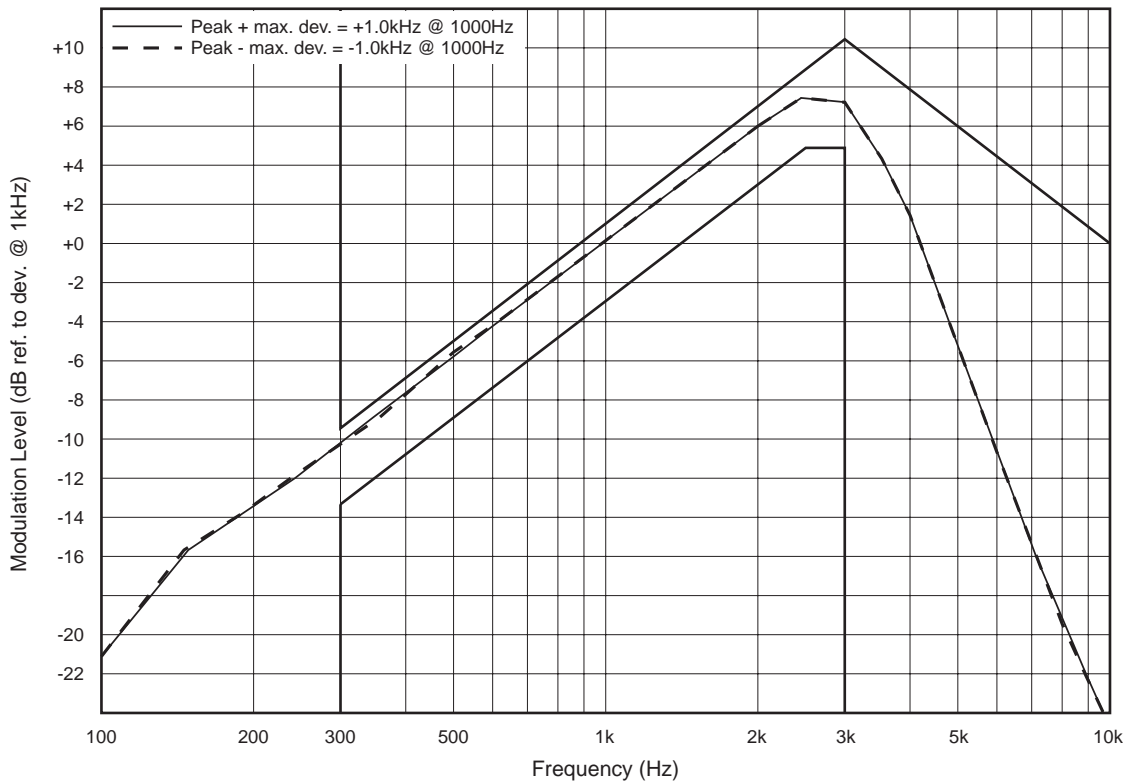
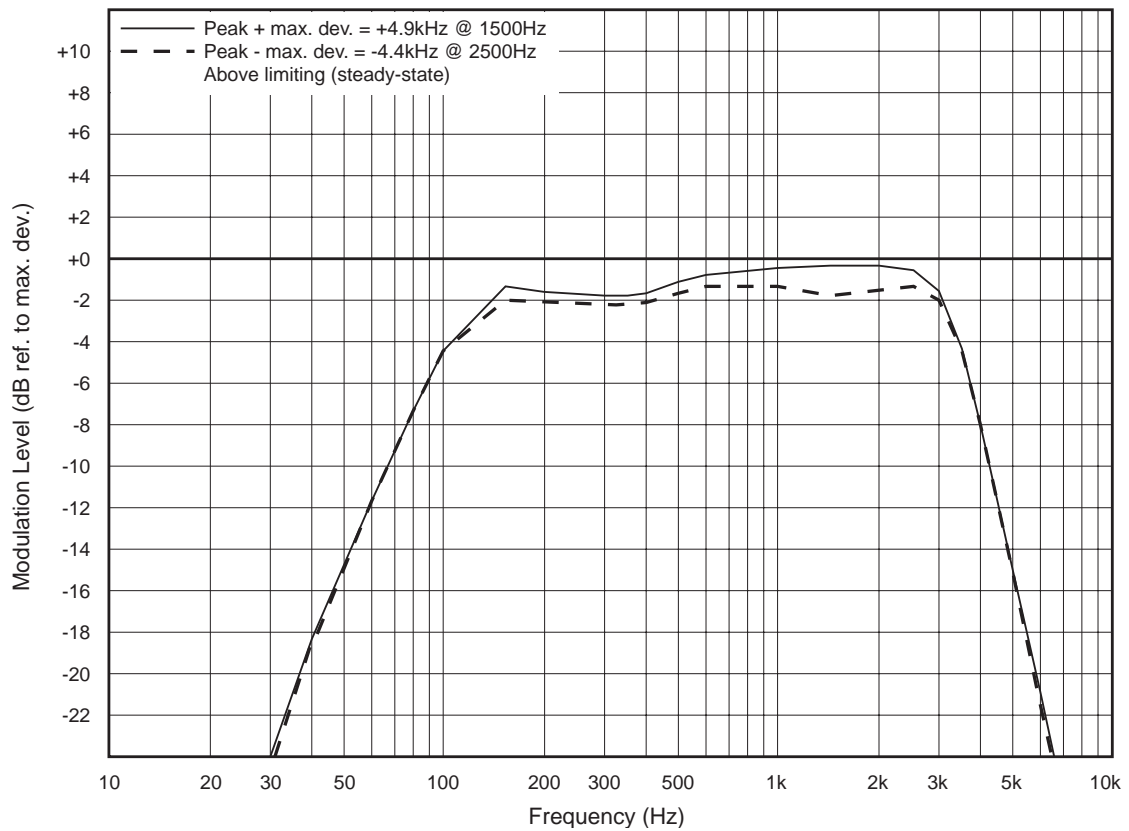

Figure 4.1 T836/837 Pre-emphasis Response
Figure 4.2 T836/837 Limiting Response
If the T836/837 has been correctly adjusted, the pre-emphasis and limiting responses should closely match those shown in Figure 4.1 and Figure 4.2 respectively.
- The response should closely match that shown in Figure 4.1.
- The response should closely match that shown in Figure 4.2.